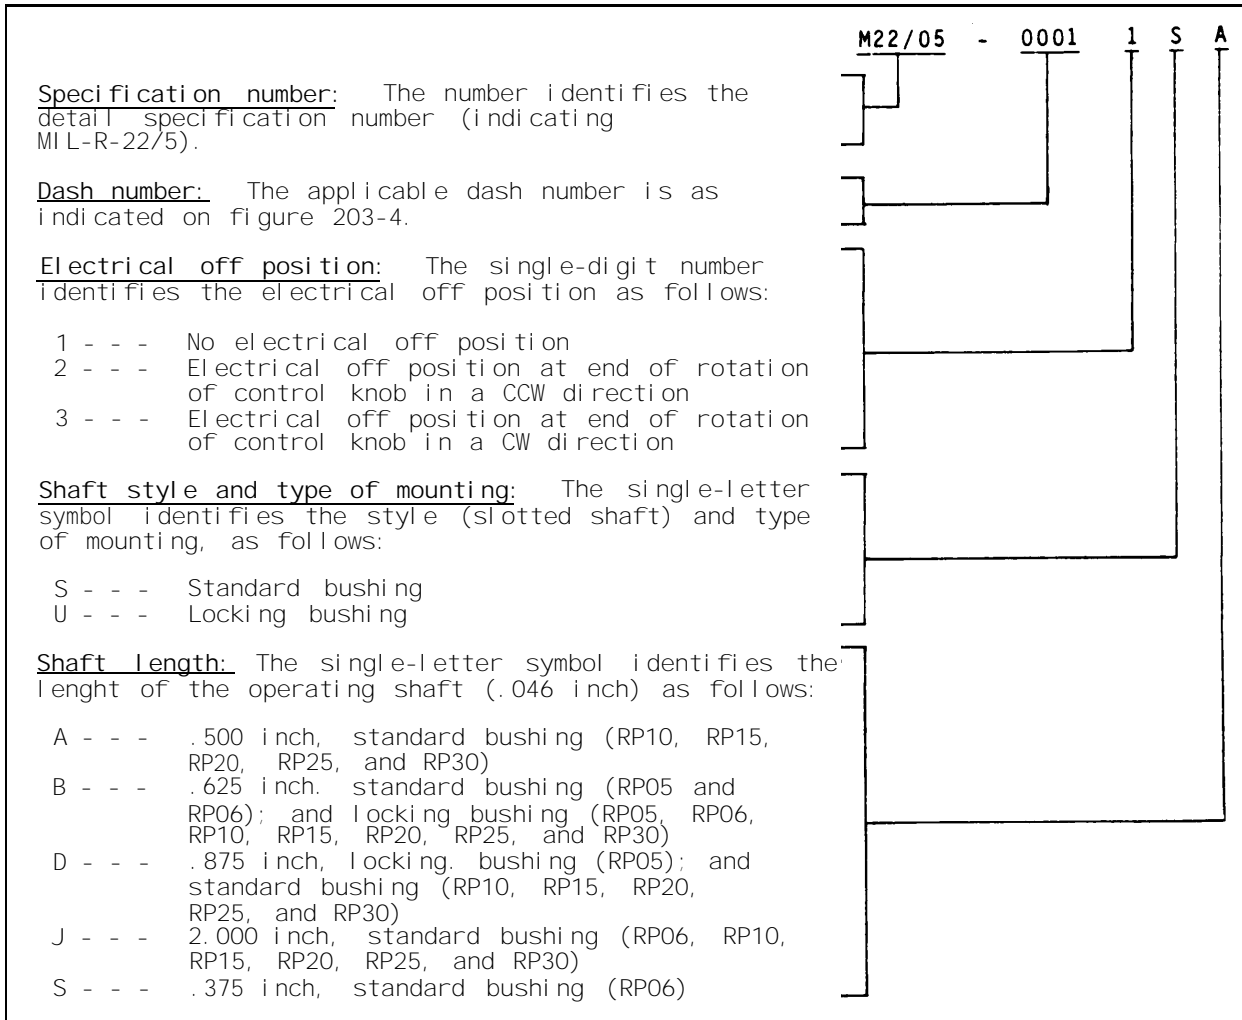

FIGURE 203-2. PIN example.
3. ITEM IDENTIFICATION (see figures 203-2 through 203-4).
3.1 P.I.N. The PIN is used for identifying the resistor as shown on figure 203-2.
1. The complete PIN (and type designation) includes symbols indicating electrical off position, style of shaft and type of mounting, and length of operating shaft (see figure 203-2 for PIN and 203-3 for type designation).